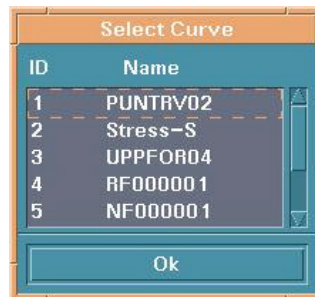

Figure 10.11.9 Select Curve
- The user selects a curve from the SELECT CURVE window, see Figure 10.11.9.